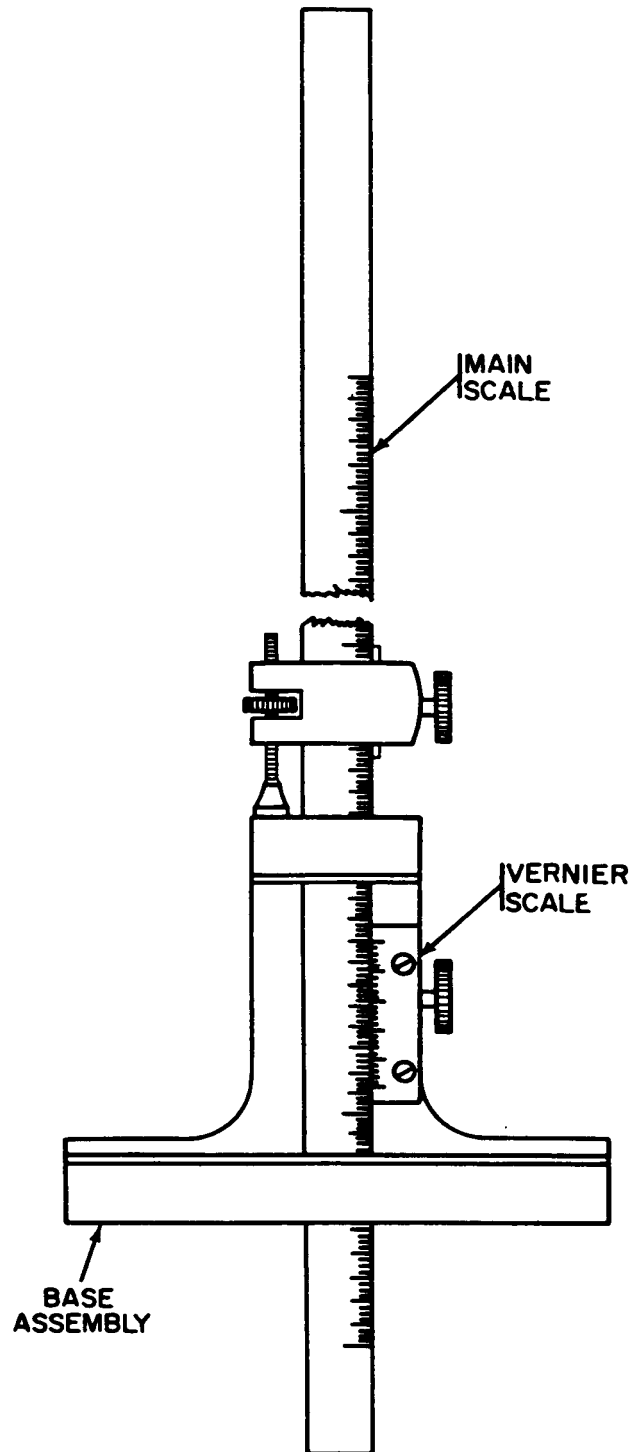

Figure 6. Vernier depth gage.
(1) Retract measuring end of main scale beyond edge of base. See fig. 6 for location of component parts.
(2) Set base of TI on triangular base.
(3) Advance main scale until it makes contact with triangular base. Lock main scale in place.
(4) The vernier depth gage should indicate zero.